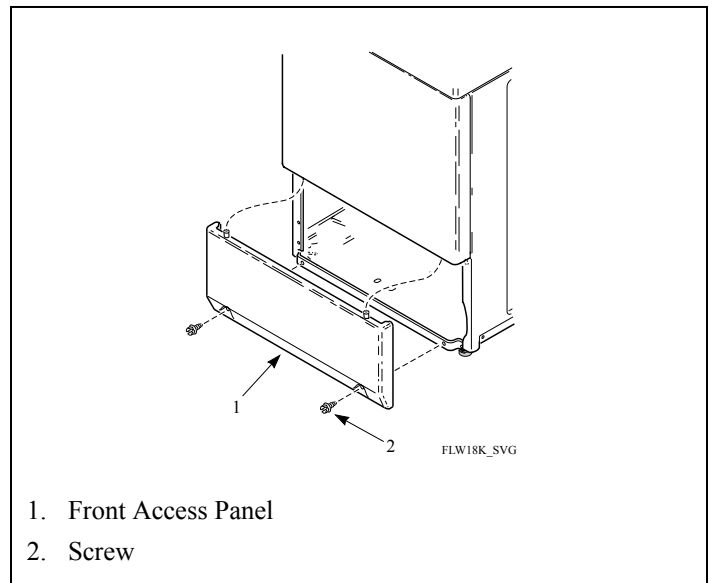

Figure 5
13. Remove front access panel at the lower front of unit by removing two screws from bottom edge of panel. Refer to *Figure 5*.
11. Remove front access panel at lower front of washer by removing two screws from bottom edge of panel. Refer to *Figure 5*.
15. Remove front access panel at the lower front of unit by removing two screws from bottom edge of panel. Refer to *Figure 5*.